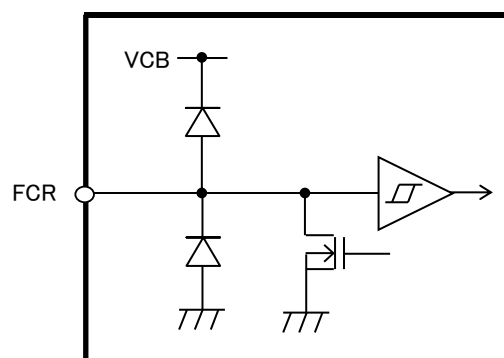

FIGURE 2.2.6 Equivalent Circuit Around FCR Pin
- Note 7: The equivalent circuit is shown in FIGURE 2.2.6.